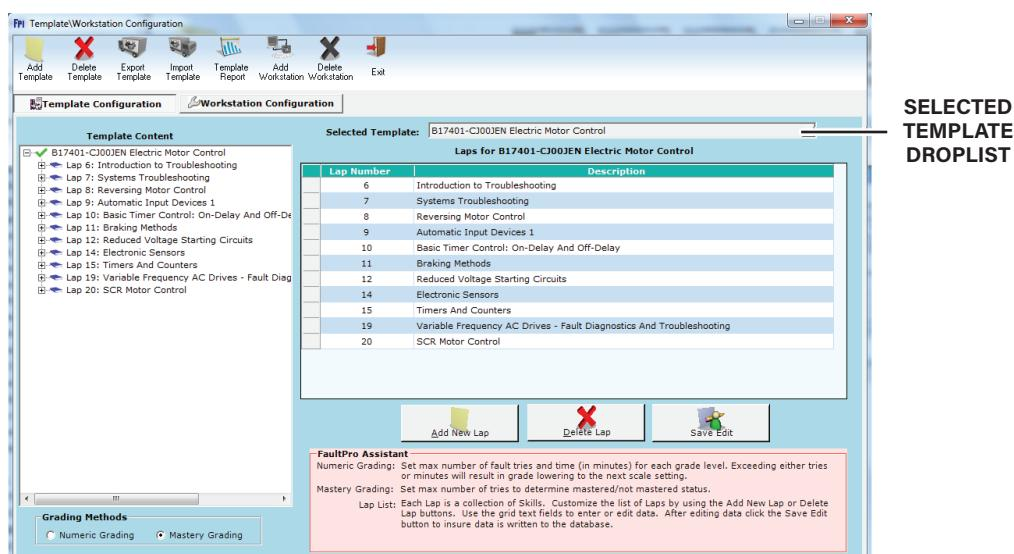

Figure 67. Template\Workstation Configuration Screen
The Template/Workstation Configuration screen should appear, its workspace containing the template listed in the Selected Template: field (first template, alphabetically, in the FaultPro database), as shown in figure 67.
4. Select the template that you wish to export. If, for example, you wish to export the Motor Control 1 Template, click the Motor Control 1 – 890-FTS-1 Template. The Template will appear similar to that shown in figure 67.
5. Click the **Export Template** button, located in FaultPro's toolbar and shown in figure 67, to begin the template export process.